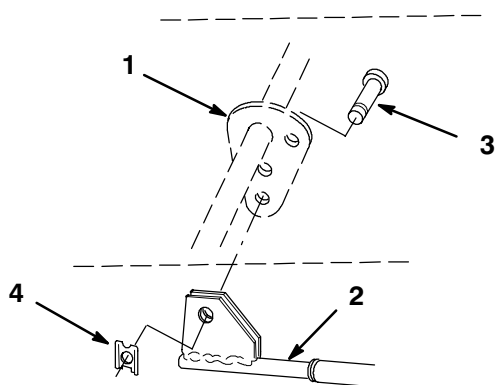

Figure 13
8. From beneath the tractor, connect the snowthrower lift rod to the bottom hole in the attachment lift plate with the 1 in. (25 mm) clevis pin and clip (Fig. 13).